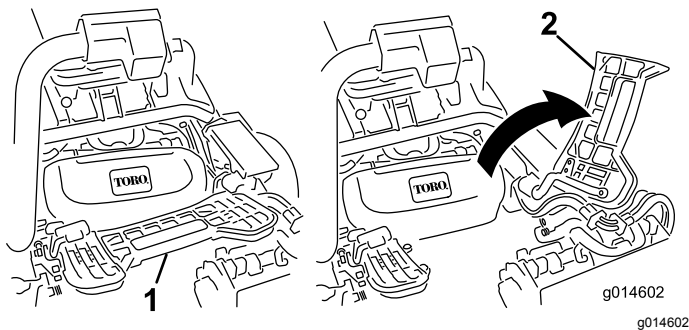

Figure 43
1. Lift up on the footrest and swing it open, allowing access to the center cutting unit position (Figure 43).